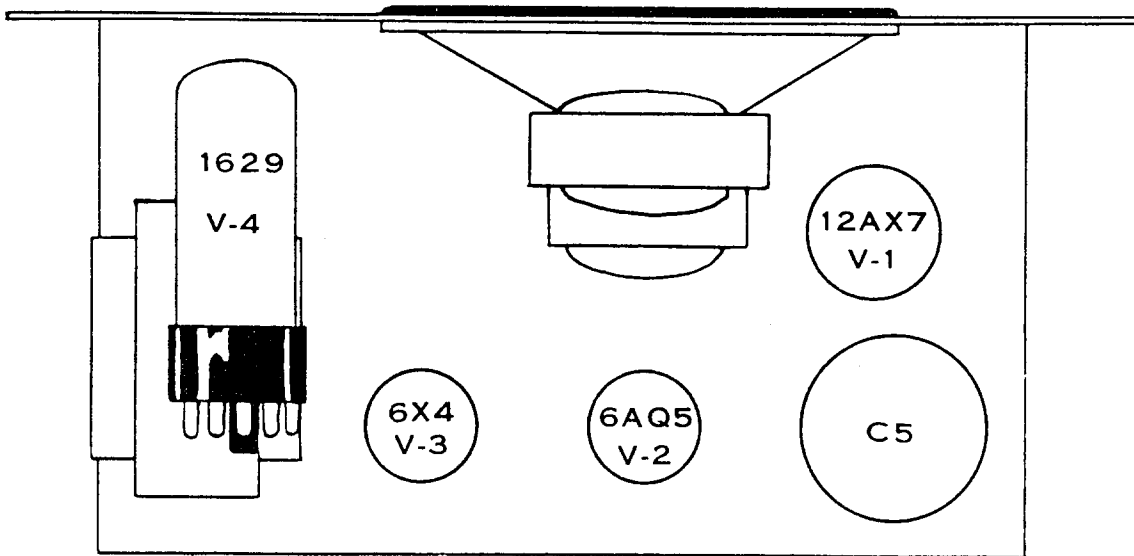

Fig. 17
3) Insert the ECC83/12AX7 tube (V1), the 6AQ5 tube (V2), and the 6X4 tube (V3) in their respective sockets on the chassis as shown in Fig. 17.